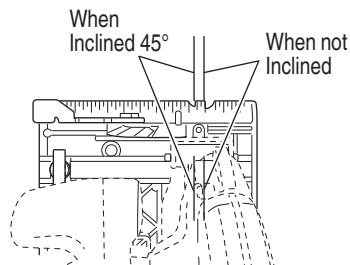
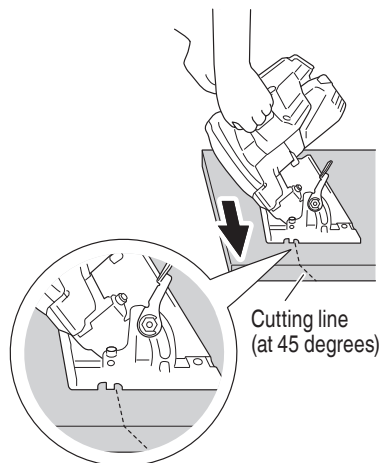
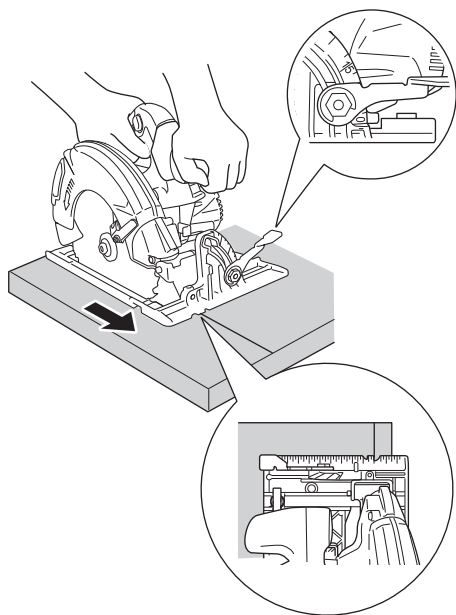

Fig. 28
Fig. 30
Fig. 29
- (1) Place the base on the material, then align the premarked line and the saw blade with the notch at the front of the base (Fig. 28).
- (2) When the base is not inclined, use the right side of the notch (Fig. 28, Fig. 29).
If the base is inclined (45 degrees), use the left side of the notch (Fig. 28, Fig. 30).
4. Tilt saw forward and align the notch (Fig. 28) with the pre-marked guide line.